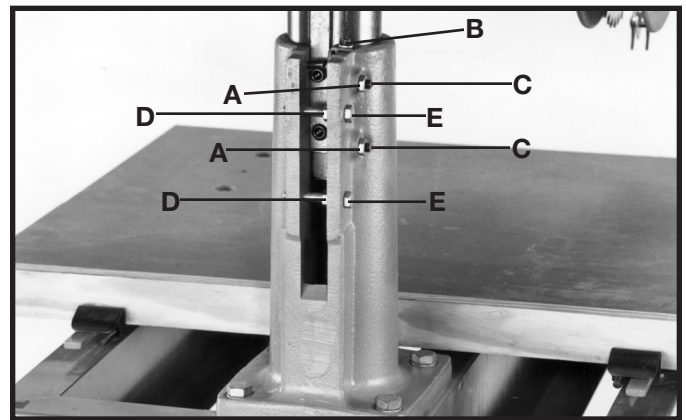

Fig. 36
2. Loosen hex nuts (A) Fig. 36, and gib adjusting screws (B) and (C).
3. Adjustment to the column base is made by loosening hex nuts (D) Fig. 36, tightening or loosening bolts (E), until column base wraps around column securely and that the column can be raised or lowered without binding. Tighten locknuts (D).
4. After column base is adjusted, tighten screws (C) Fig. 36, against column gib until all side motion disappears in overarm.
5. Tighten hex nuts (A) and screw (B) Fig. 36.